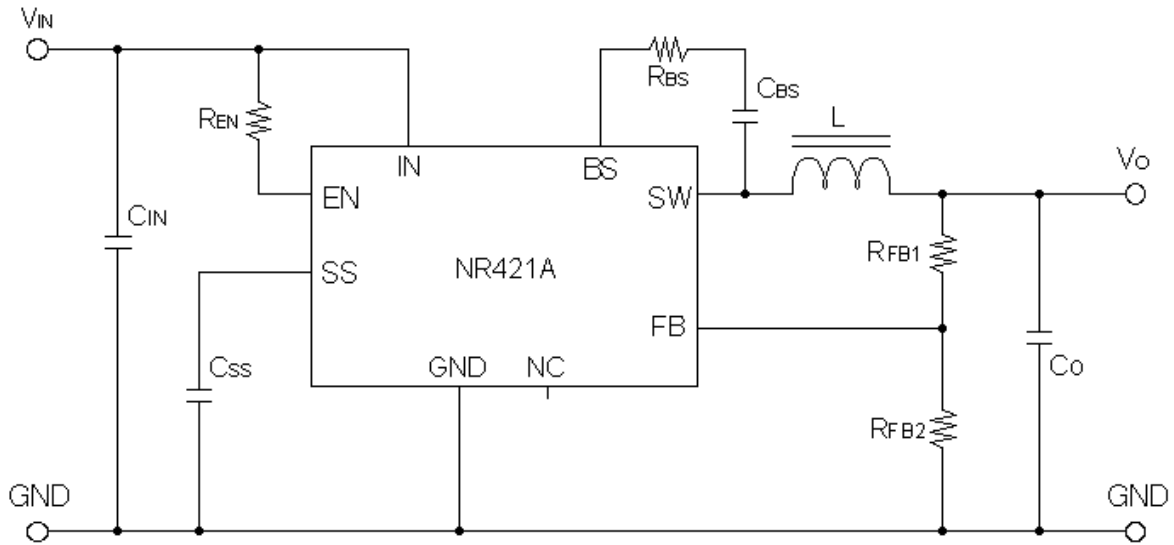

Fig. 3-1 NR421A Standard connection
(4) Refer to typical Application Circuit (Fig3-1).
Standard connection is shown in Fig3-1.